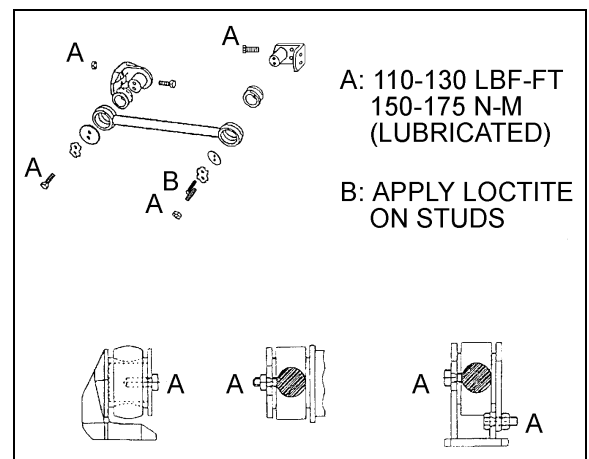

FIGURE 9: RADIUS ROD INSTALLATION 16028
1. Lightly spray the radius rod support with water. Place the radius rod end over the radius rod support (Fig. 9).